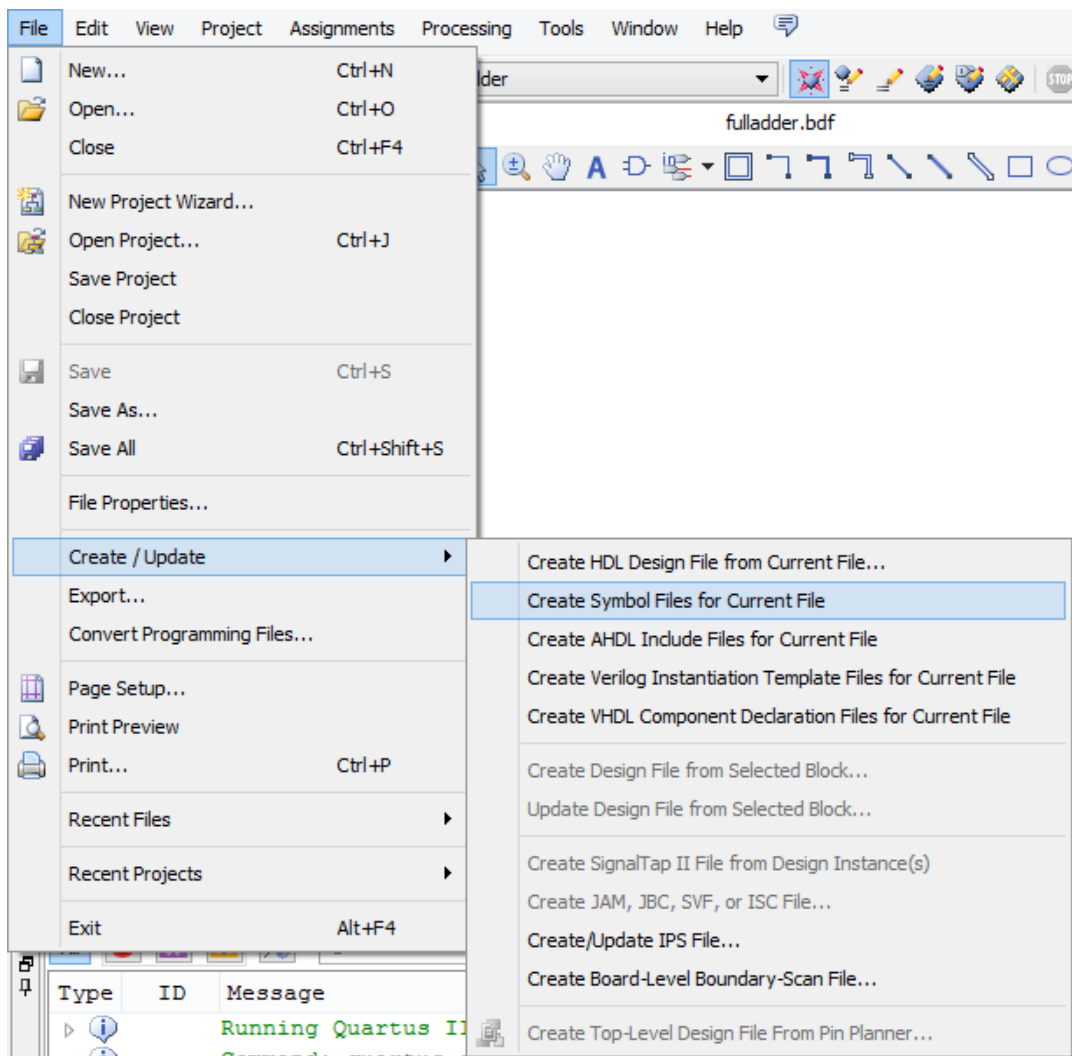

Figure 4.3 Symbol creation window
8. Open **File > Create/Update > Create Symbol Files for Current File** as it's shown on Figure 4.3.